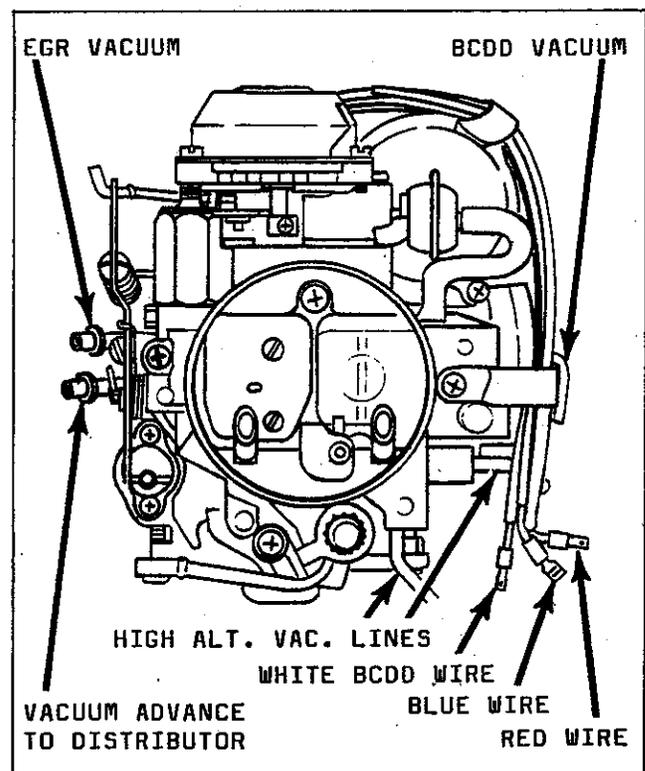

Figure 2
7. Disconnect the following carburetor lines and wires. Identify removed lines and wires to aid in reassembly. See figure 2.
**NOTE:** Some vehicles have altitude compensation devices which have two (2) vacuum lines connecting the carburetor with a unit mounted on the left inner fender, behind the BCDD unit. These lines may be discarded. See figures 2 and 3. The BCDD electrical wire will not be used on the Weber Carburetor and should be disconnected and discarded.